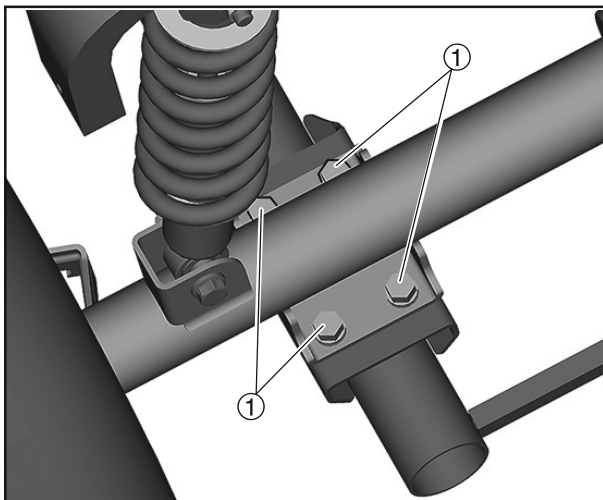

Figure 6-37
24. Remove four rear axle mounting bolts (**Figure 6-37, (1)**) from each side of axle.